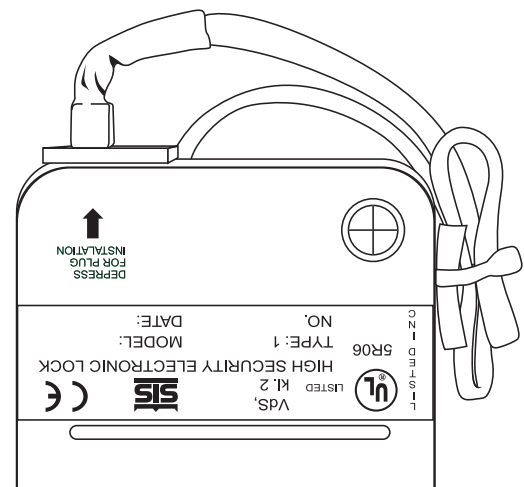

Figure 13
- ④ Secure entry cable with tywrap, making sure that any extra cable is in a safe position and cannot be damaged by any moving parts or sharp edges, see *Figure 13*.